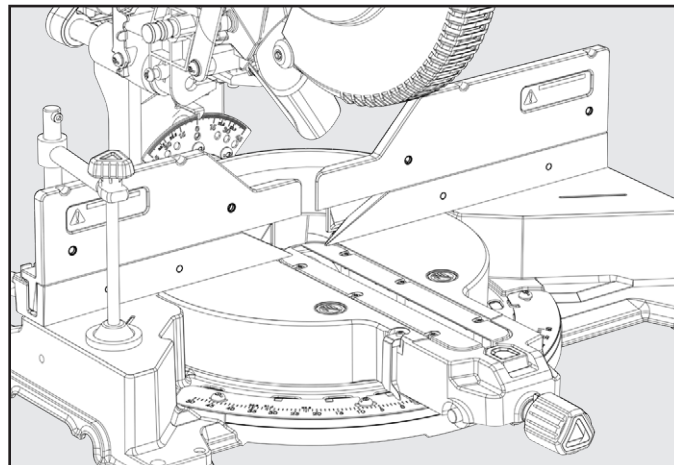

Figure 37
See Figure 37.
1. Place auxiliary fence wood against miter saw fence. See Figure 37. The maximum height for this wood must not exceed 5.5 inch. Check to make sure auxiliary fence does make contact with saw head, check with saw head in the full DOWN and fully RETRACTED position.